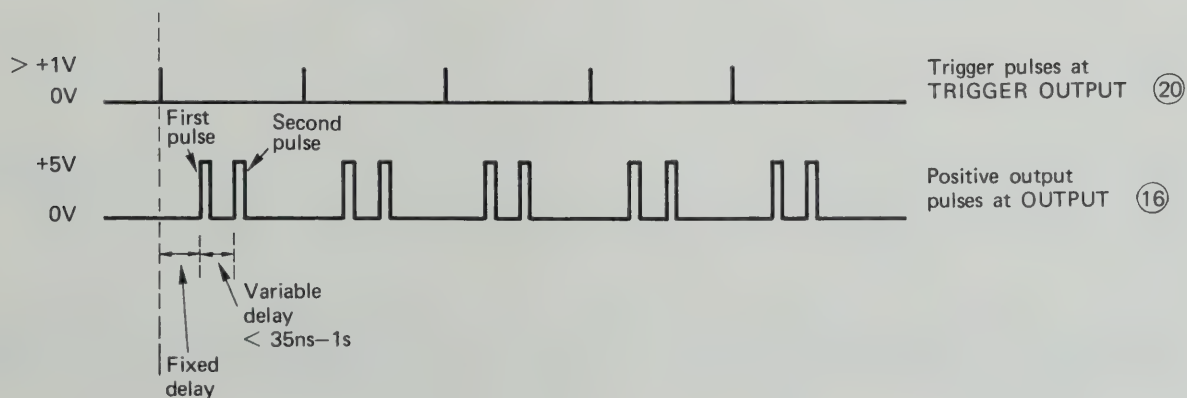

Figure 3-21. Output pulses in double pulse mode
3-49 The trigger and output pulses should appear at the TRIGGER OUTPUT (20) and OUTPUT (16) connectors as shown in Figure 3-21.